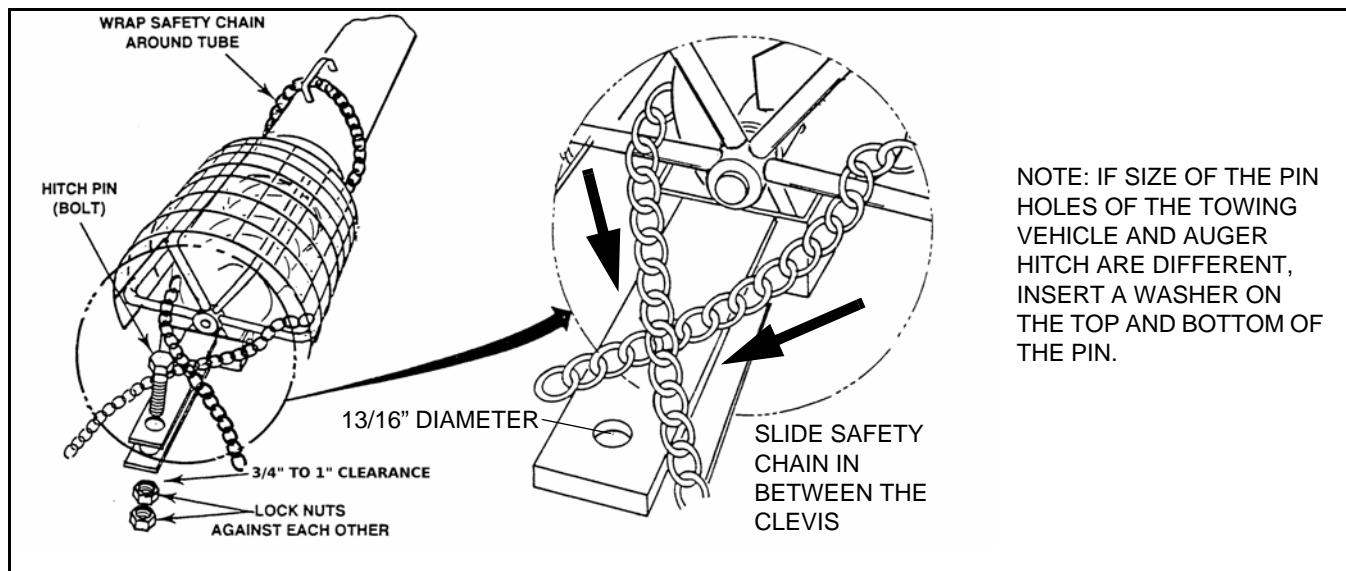

Figure 4.1
Important: Use a type of hitch pin (see Figure 4.1) with a load rating that at least matches the carrying capacity of the towing vehicle (class 3 trailer hitch).
5. Thread the safety chain through the handle on the lower tube, wrapped around the auger and slipped through the clevis (see Figure 4.1) before securely attaching to the towing vehicle. Leave chain slack enough for angular movement.
Important: Use a type of hitch pin (see *Figure 4.1*) that will not allow auger to separate from towing vehicle.